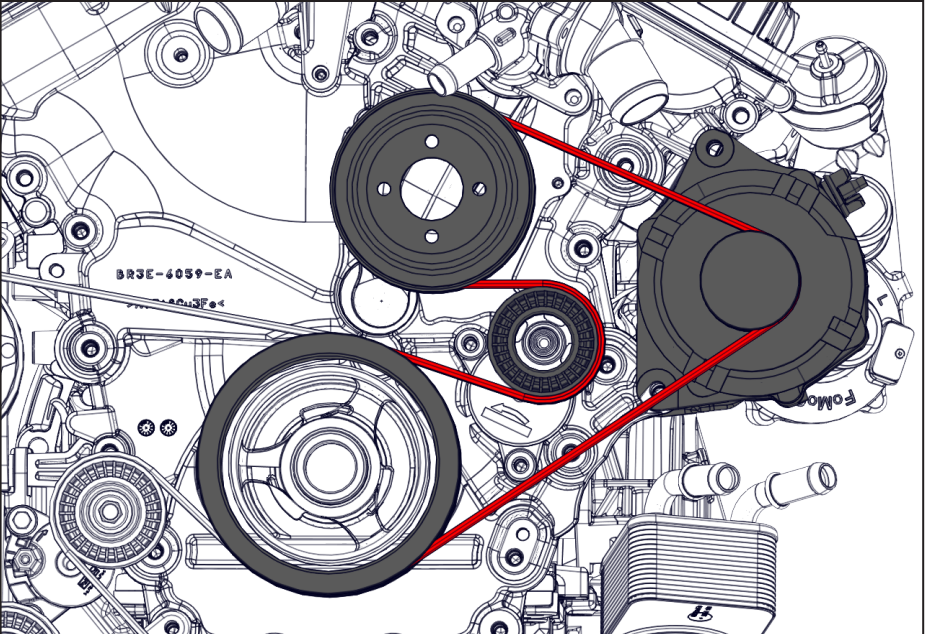

Figure 28 — 6 rib belt routing
- Reinstall the OEM 6 rib belt and tension it (Figure 28).